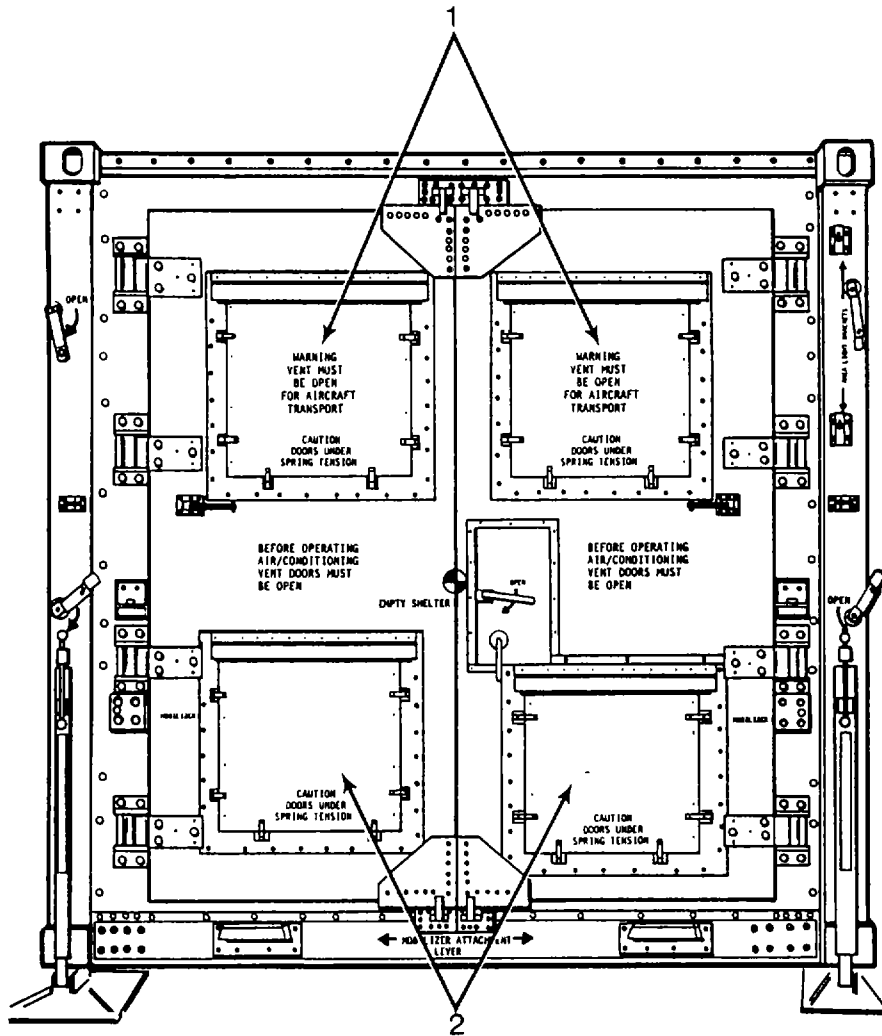

Figure 2-9. Cargo Door AC Vent Assemblies
2-10. **CARGO DOOR AC VENT ASSEMBLIES.** Top vents (one in each door) (1, Figure 2-9) allow outside air to enter the AC units. Bottom vents (one in each door) (2) allow air to escape from the AC units. All vents must be opened for the AC units to operate.